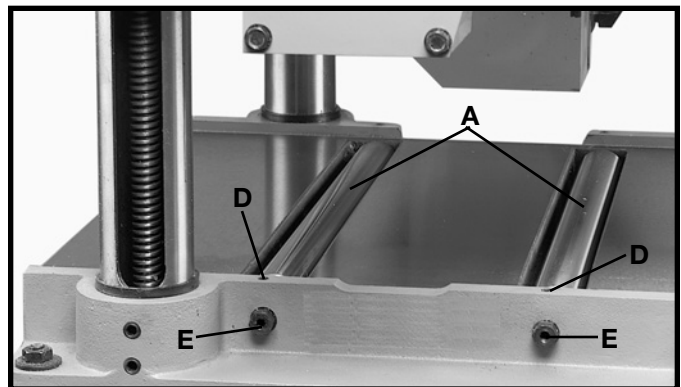
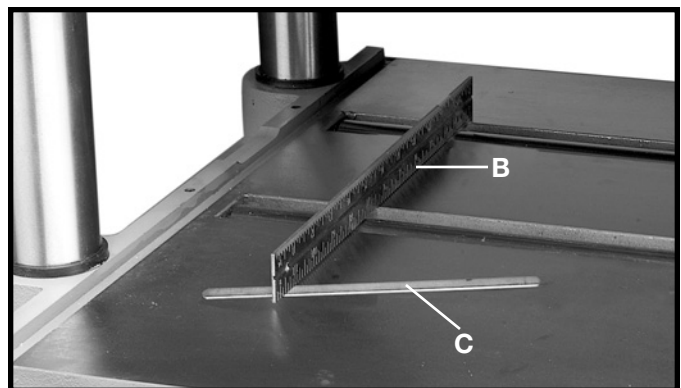

Fig. 47
Fig. 48
Your planer is supplied with two table rollers (A) Fig. 47, which aid in feeding the stock by reducing friction and turn as the stock is fed through the planer. It is not possible to give exact dimensions on the proper height setting of the table rollers because each type of wood behaves differently. As a general rule, however, when planing rough stock the table rollers should be set **HIGH** (0.003" to 0.005") above the table surface and when planing finish stock the table rollers should be set **LOW**, 0.001" above the table surface or level with the table surface.
Lay a straight edge (B) Fig. 48, across both rollers and with a feeler gage (C) underneath the straight edge as shown, adjust height of table rollers by loosening set screws (D) Fig. 47, and turn screws (E) to raise or lower table rollers (A). Table rollers must be adjusted on the opposite side of table in the same manner. The table rollers must always be set parallel to the table. **IMPORTANT: The adjustment screws (E) Fig. 47, on both sides of the planer are on eccentrics and care should be taken when adjusting to keep the rollers from leading the stock to one side or the other. This can be accomplished by turning screws (E) Fig. 47, clockwise to raise or lower the rollers and turning the two screws on the opposite end of the rollers counterclockwise or vice versa.**